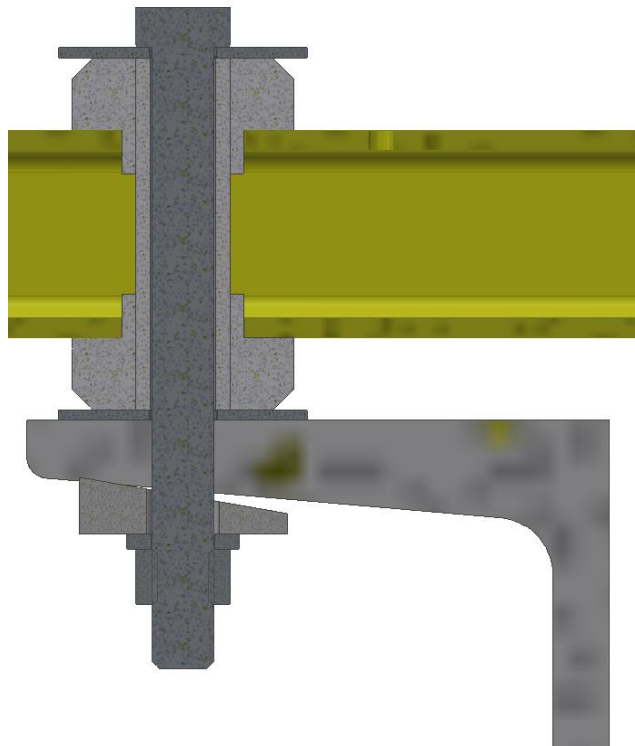

Figure 7: Machine Guard Mounting Tube Hardware
- Position mounting tubes and secure in place with the appropriate 3/8 inch hardware provided as show below (Figure 7).